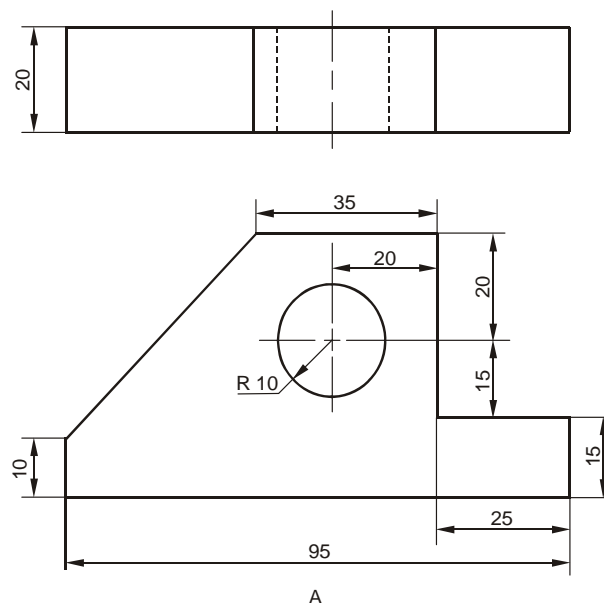

Figure 5.16
- (b) Figure 5.16 shows the orthographic views of a machine bracket. Draw an oblique view.